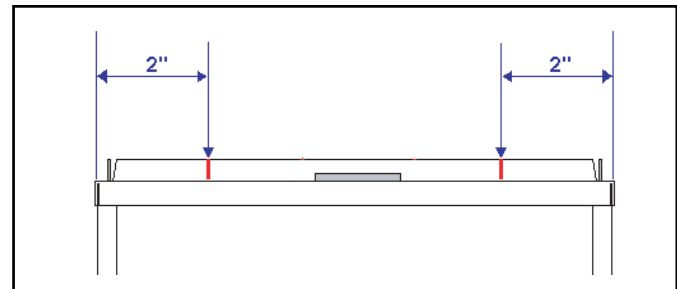

Figure 19 Duct Flanges
**NOTE:** Cut the front duct flange 2" from each side and fold flat to clear the Power Door latches. Some applications may require a transition for piping clearances. See Figure 19.